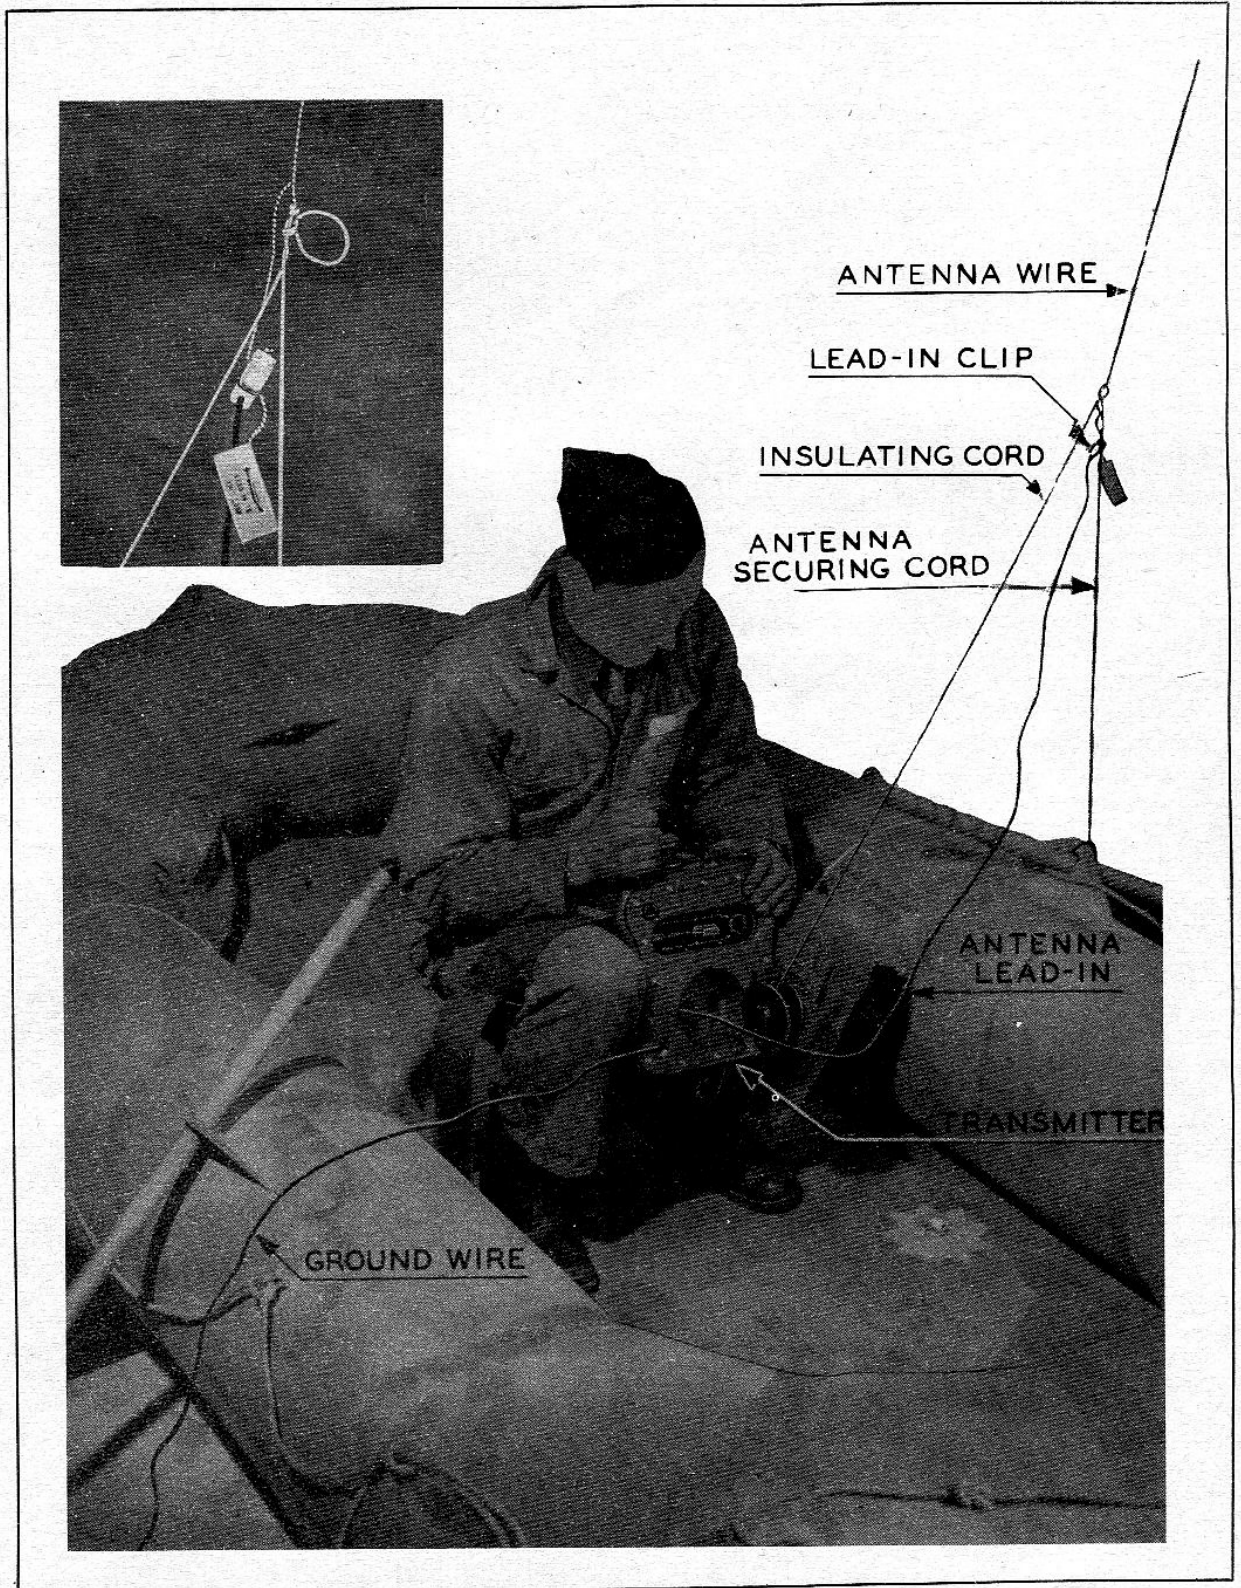

Figure 2-7. Antenna Connection
(6) Release the antenna-securing cord from the insulating cord by removing the three small pieces of tape holding the two together and attach the antenna-securing cord to the life raft. (See fig. 2-7.)
(7) Connect the antenna lead-in from the transmitter to the antenna.